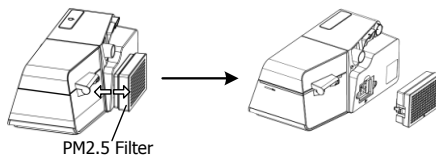

Fig. 18-6
- (3) Change the air filter and filter cap to the PM2.5 filter, as shown in Fig. 18-6.